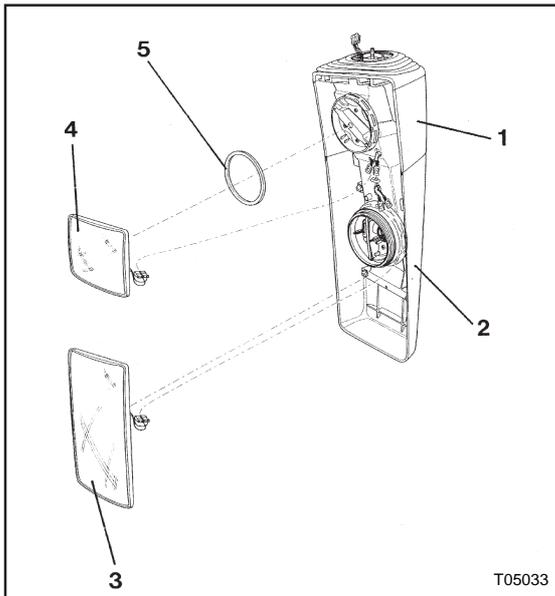

Figure 8: Flat and convex-type mirror glass installation
4. Position the assembly (3, Figure 8) into the center of the mirror head casing (2, Figure 8).
1. Check that rubber ring (5, Figure 8) is properly seated onto the locking lugs of the new mirror glass assembly.
3. Position the assembly (4, Figure 8) into the center of the mirror head casing (1, Figure 8).